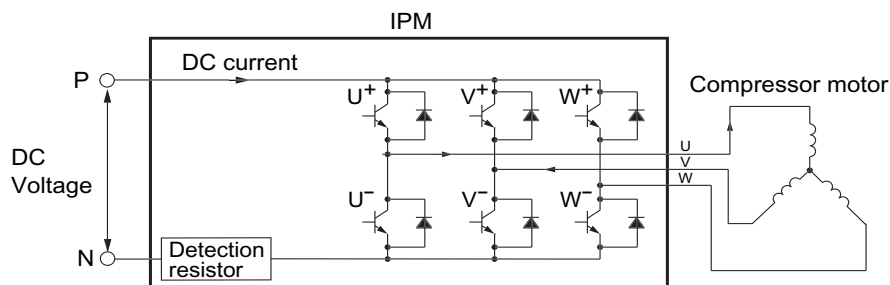

Fig. 6-9
1. Turns on the power module's U+ and V- transistors so the current flows to the motor windings as shown in Fig. 6-9.